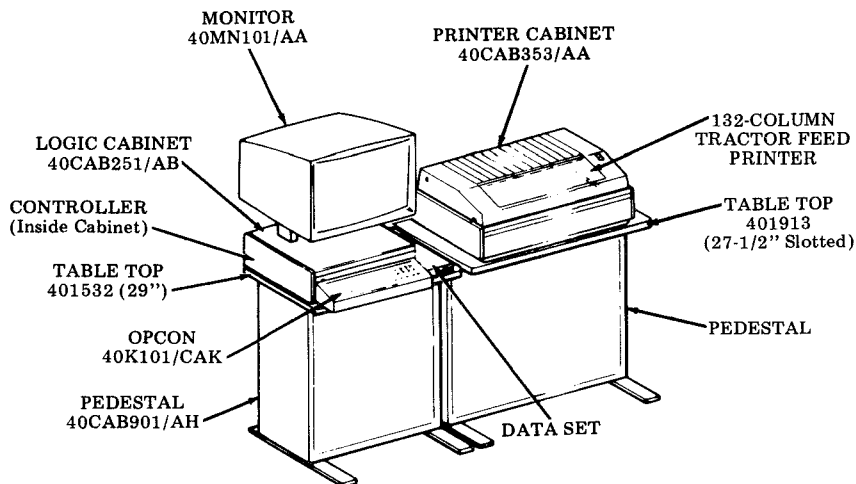

Fig. 13
3.12 Keyboard Display (KD) With Receive-Only 132-Column Tractor Feed Printer (Fig. 13)